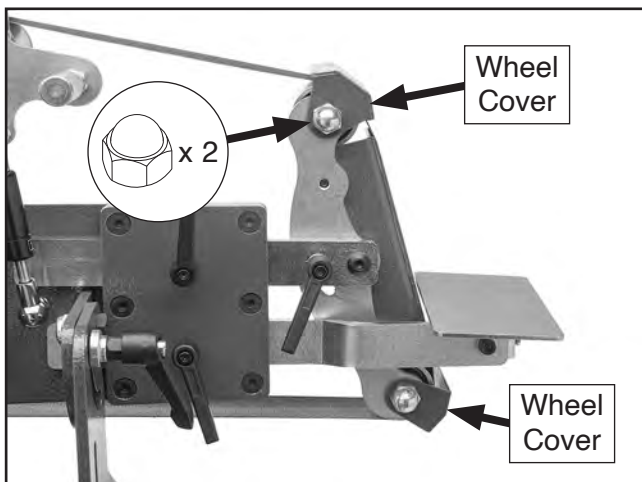

Figure 26. Location of wheel covers and acorn nuts.
- Loosen acorn nuts on wheel covers shown in **Figure 26**, adjust covers so they are not contacting belt, then tighten nuts to secure.